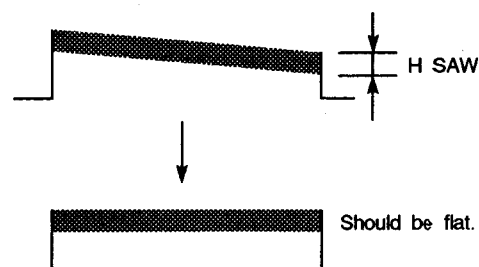

Fig. 5-1-39
- Adjust VR3 so that the shading portion level becomes flat level as shown in Fig. 5-1-39.
- Adjust VR7 so that the shading portion level becomes flat level as shown in Fig. 5-1-39.
- Adjust VR11 so that the shading portion level becomes flat level as shown in Fig. 5-1-39.